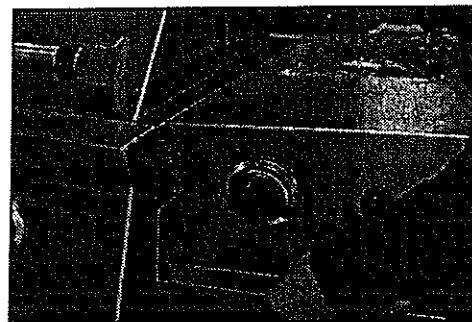

Fig. 2
3. Attach the Side Burner to the grill by inserting the shelf hooks into the slots on the side of the grill and pushing down on the shelf assembly until level with the grill (See Fig. 2)